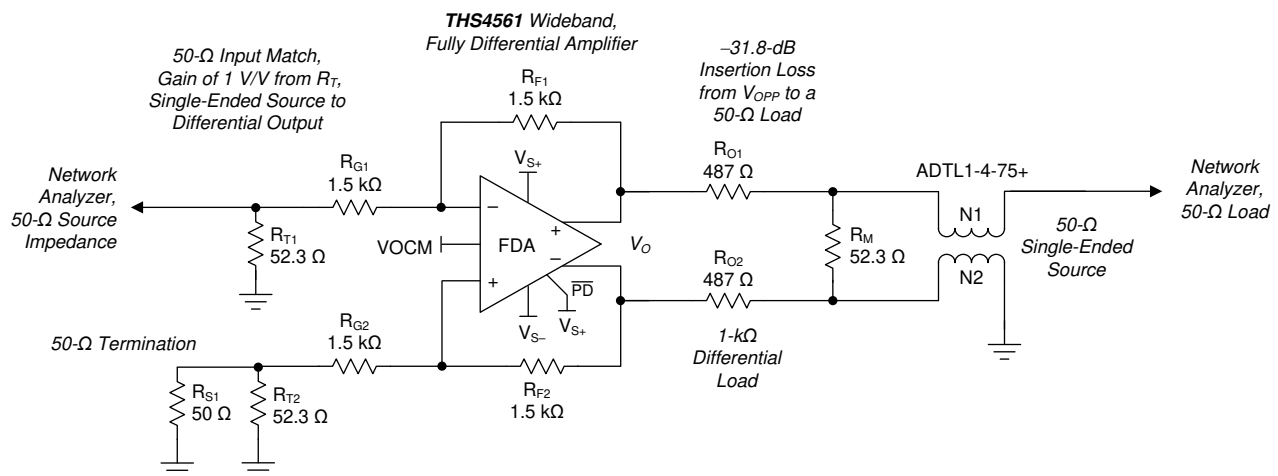

Figure 8-1. Single-Ended Source to a Differential Gain of a 1-V/V Test Circuit
at T_A ≈ 25°C, V_{OCM} pin = open, R_F = 1.5 kΩ, R_L = 1 kΩ, V_O = 2 V_{PP}, 50-Ω input match, G = 1 V/V, $\overline{PD} = V_{S+}$, single-ended input, differential output, and input and output referenced to default midsupply for AC-coupled tests (unless otherwise noted); see Figure 8-1 for a gain of 1-V/V test circuit.
at T_A ≈ 25°C, VO_{CM} pin = open, R_F = 1.5 kΩ, R_L = 1 kΩ, V_O = 2 V_{PP}, 50-Ω input match, G = 1 V/V, $\overline{PD} = V_{S+}$, single-ended input, differential output, and input and output referenced to default midsupply for AC-coupled tests (unless otherwise noted); see Figure 8-1 for a gain of 1-V/V test circuit.
The characterization circuits are typically operated with a single-ended, matched, 50-Ω, input termination to a differential output at the FDA output pins because most lab equipment is single-ended. The FDA differential output is then translated back to single-ended through a variety of baluns (or transformers) depending on the test and frequency range. DC-coupled step response testing uses two 50-Ω scope inputs with trace math to measure the differential output. Single-supply operation is most common in end equipment designs. However, using split balanced supplies allows simple ground referenced testing without adding further blocking capacitors in the signal path beyond those capacitors already within the test equipment. The starting point for any single-ended input to differential output measurements (such as any of the frequency response curves) is shown in Figure 8-1.
Most characterization plots fix the R_F ($R_{F1} = R_{F2}$) value at 1.5 kΩ, as shown in Figure 8-1. This element value is flexible in application, but 1.5 kΩ provides a good compromise for the parasitic issues linked to this value, specifically:
- Added output loading: The FDA functions similarly to an inverting op amp design with feedback resistors appearing as an added load across the outputs (the approximate total differential load in Figure 8-1 is $1.5 \text{ k}\Omega \parallel 1 \text{ k}\Omega = 857 \text{ }\Omega$). The 1.5-kΩ value reduces the power dissipated in the feedback networks.
The frequency domain characterization curves start with the circuit and component selections of Figure 8-1. Some of the features in this test circuit include:
- Translating from a 1-k Ω differential load to a 50- Ω environment introduces considerable insertion loss in the measurements (-31.8 dB in Figure 8-1). The measurement path insertion loss normalizes when reporting the frequency response curves to show the gain response to the FDA output pins.
Starting from the test circuit of Figure 8-1, various elements are modified to show the effect of these elements over a range of design targets, specifically:
- Resistive and capacitive output load testing. Changing to lower resistive loads is accomplished by adding parallel resistors across the output pins in Figure 8-1. Changing to capacitive loads adds series output resistors to a differential capacitance before the 1-k Ω sense path of Figure 8-1.